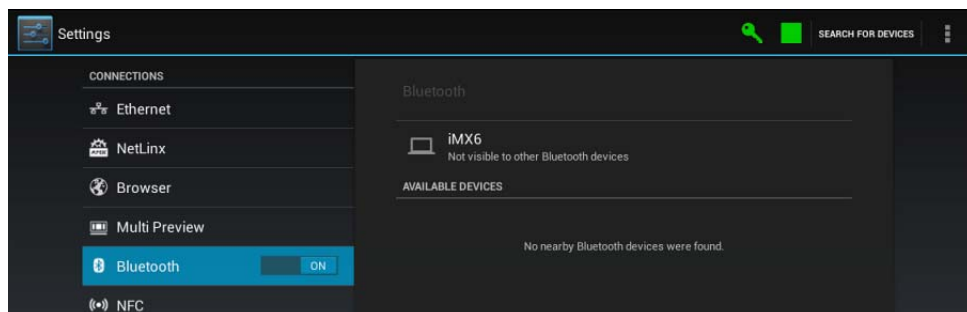

FIG. 60 Bluetooth page - Bluetooth Enabled
1. Press the **Bluetooth** menu item to toggle the function ON (FIG. 60):